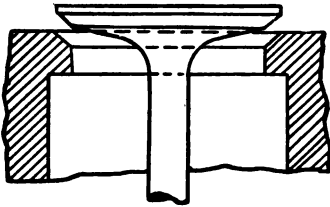

FIG. 19.—Conical Disc, Poppet Valve.
**Valves.** The most common and best developed at present is the disc, poppet valve shown in Fig. 19. Drop forged valves answer the purpose for all but